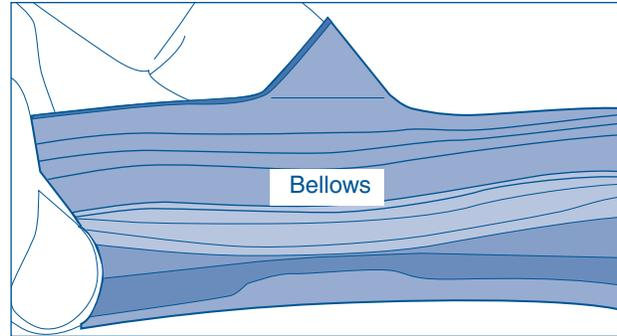

Figure 4-17.
1. There is a tab and an arrow on the top of the tub lip, a slot in the groove and an arrow at the top of the bellows. (See Figure 4-17)